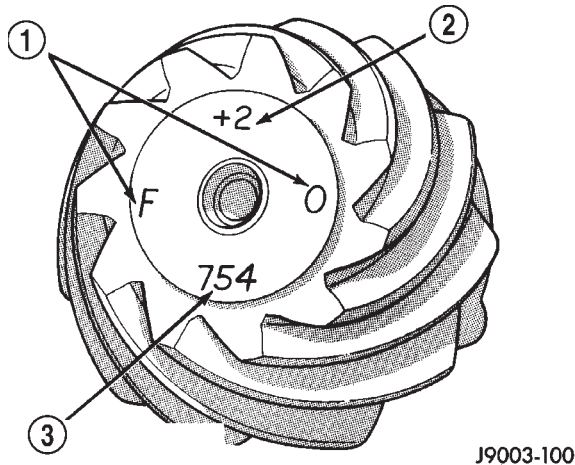

Fig. 51 Pinion Gear ID Numbers
Ring gears and pinions are supplied as matched sets only. The identifying numbers for the ring gear and pinion are etched into the face of each gear (Fig. 51). A plus (+) number, minus (-) number or zero (0) is etched into the face of the pinion. This number is the amount (in thousandths of an inch) the depth varies from the standard depth setting of a pinion etched with a (0). The standard depth provides the best gear tooth contact pattern. Refer to Backlash and Contact Pattern Analysis paragraph in this section for additional information.
(9) Select a shim equal to the dial indicator reading plus the drive pinion gear depth variance number etched in the face of the pinion (Fig. 51). For example, if the depth variance is -2, add +0.002 in. to the dial indicator reading.